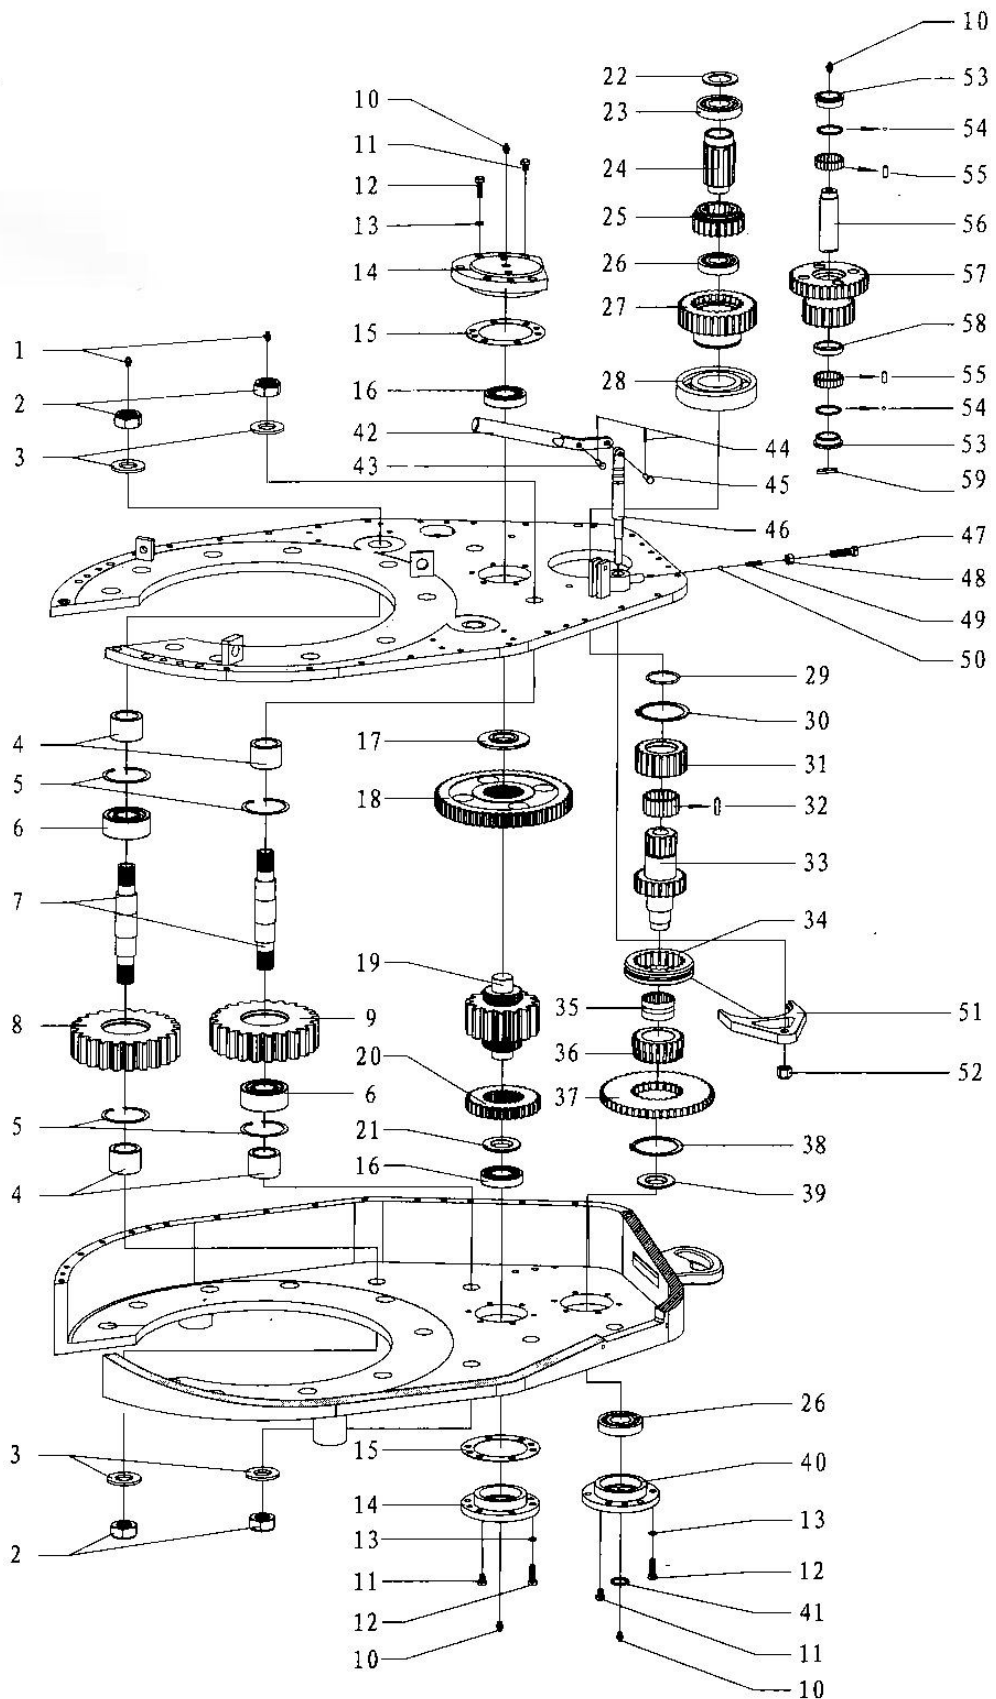

Fig. 9
- Drive gear of master tong (Fig 9, Table 6)